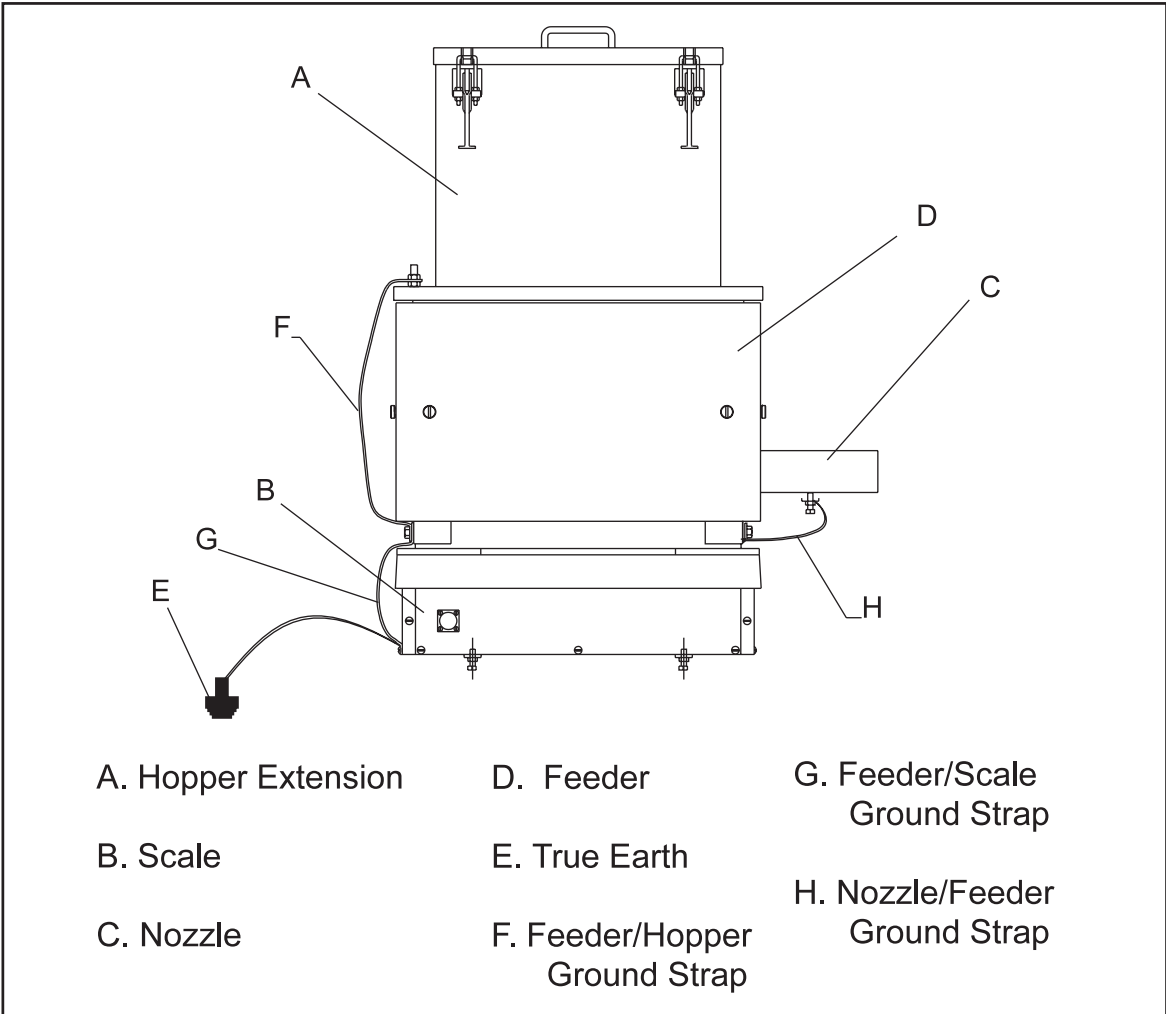

Figure 8. Attachment of Ground Wires
on the main frame of the feeder (Item F, Figure 8).
- From one side panel mounting screw on the scale to the attachment point on the feeder frame (the same point on feeder frame can be used to attach all three ground wires) (Item G, Figure 8).
- From the nozzle to a stud on the feeder frame (Item H, Figure 8).